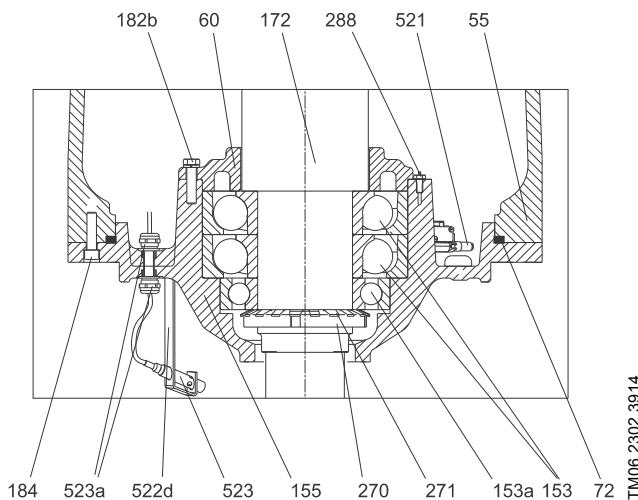

Fig. 95 Lower bearing bracket, column 900-1800
2. Loosen the cable gland (pos. 523a) from both sides of the lower bearing bracket (pos. 155). See fig. 95.
3. Disconnect the WIO sensor from the transient protector, cut off the spade connectors of the water-in-oil sensor (pos. 523) and pull out the cable through the cable glands.
4. Loosen and remove the screw for the WIO sensor bracket (pos. 522d) and remove the WIO sensor with bracket.
5. Loosen and remove the screws (pos. 521b) for the moisture switch (pos. 521).
6. Mount three eyebolts on the lower bearing bracket (pos. 155), placed at 120 ° angles.
8. Loosen and remove the screws (pos. 182b) for the bearing cover (pos. 60).
9. Gently lift the lower bearing bracket (pos. 155) free of the bearings and the shaft.
10. Unlock the lock washer (pos. 271), loosen and remove the bearing lock nut (pos. 270).
11. Remove the bearings (pos. 153, 153a) using a press, and by pressing on the inner ring of the bearings.
12. Remove the bearing bracket cover (pos. 60) of the lower bearing bracket from the shaft.